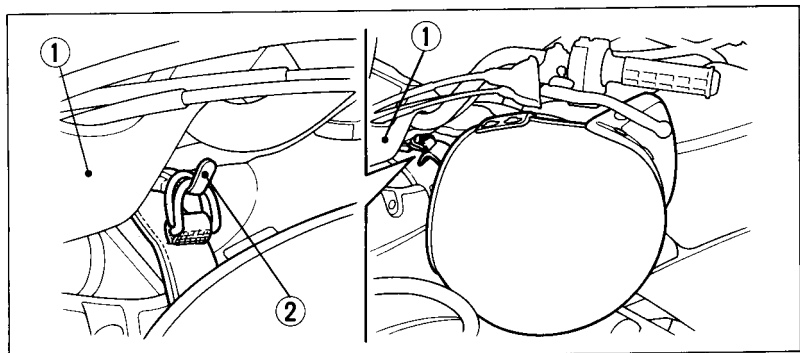

Fig. 2-25
The helmet holder (Fig. 2-25) is a bracket near the left side of the handlebar cover (1). To use the holder, hang the D-ring on your helmet strap over the bracket. Use the helmet holder only when the TRX300FW is parked.